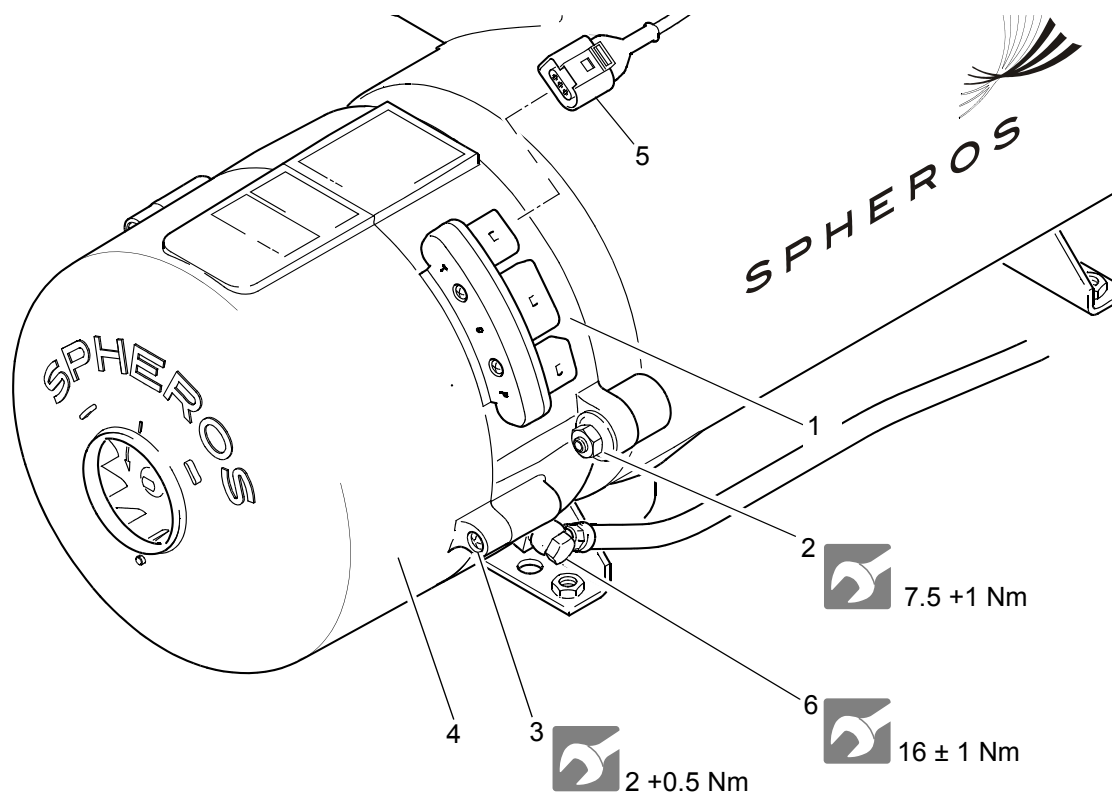
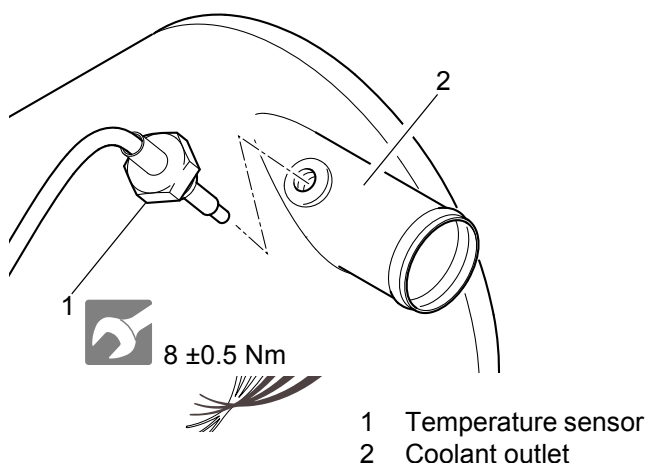

Fig. 801 Burner head / hood removal and installation
Fig. 802 Temperature sensor removal and installation
2. Disconnect the temperature sensor plug (5, Fig. 801).
1. Bring burner (1, Fig. 801) in assembly position and ensure centre alignment and correct fit.
2. Place nuts (2) and alternately tighten them slightly.
3. Tighten nuts (2) and apply screw locking paint.
6. Connect the temperature sensor plug (5).
- 2 Nuts (2)
- 3 Screws (2)
3. Unscrew and remove temperature sensor (1, Fig. 802). Collect the escaping coolant.
1. Manually screw temperature sensor (1, Fig. 802) into coolant outlet (2).
2. Tighten temperature sensor (1).
3. Connect temperature sensor plug (5, Fig. 801).
2. If applicable, disconnect the temperature sensor (5, Fig. 801).
3. Loosen screws (3).
4. Remove hood (4).
1. Place hood (4, Fig. 801) in assembly position. Ensure centre alignment, proper fit and seal towards heater wiring harness.
2. Insert screws (3) and tighten.
3. If applicable, reconnect the temperature sensor plug (5).
1. Disconnect the temperature sensor (1, Fig. 802).
7. Slide the coupling (7) onto the motor shaft and pre-position it.
10. Reconnect temperature sensor (1, Fig. 802).
- 4 Screws (2)